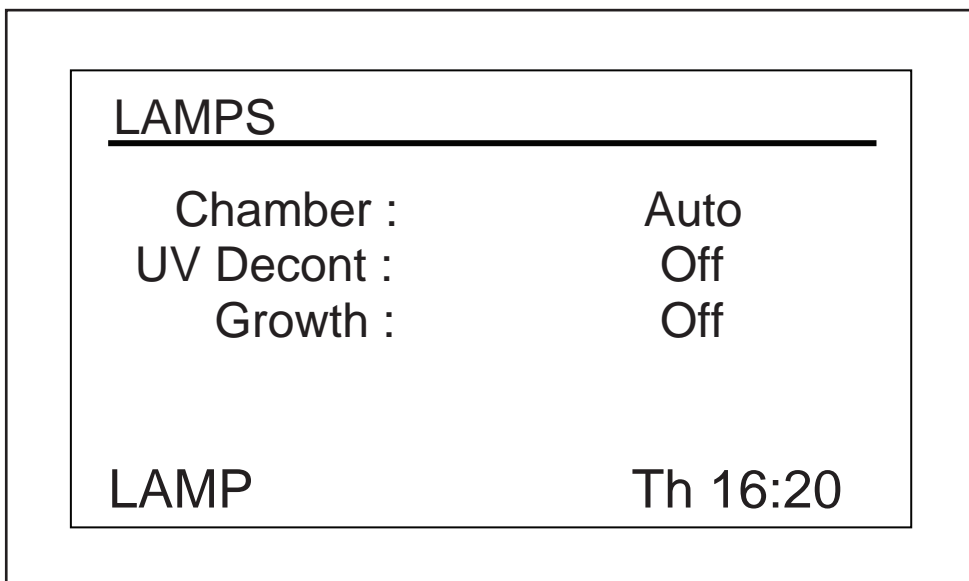

Fig. 9-6: Lamps screen
In this screen (see Fig. 9-6 on p. 53), you can turn the chamber light (*Chamber*), the optional UV germicidal (decontamination) lamp (*UV Decont*) and the optional photosynthetic growth lamps (*Growth*) on and off. *On* means the light is always on, and *Off* means the light is always off, unless you add additional programming (see *Program the shaker* on p. 57).
The current setting will flash (in the sample screen, we will use the *Chamber* light as an example (see Fig. 9-6 on p. 53)).
2. Turn the knob left or right until the desired mode setting appears (*Auto* in this example (see Fig. 9-6 on p. 53)).